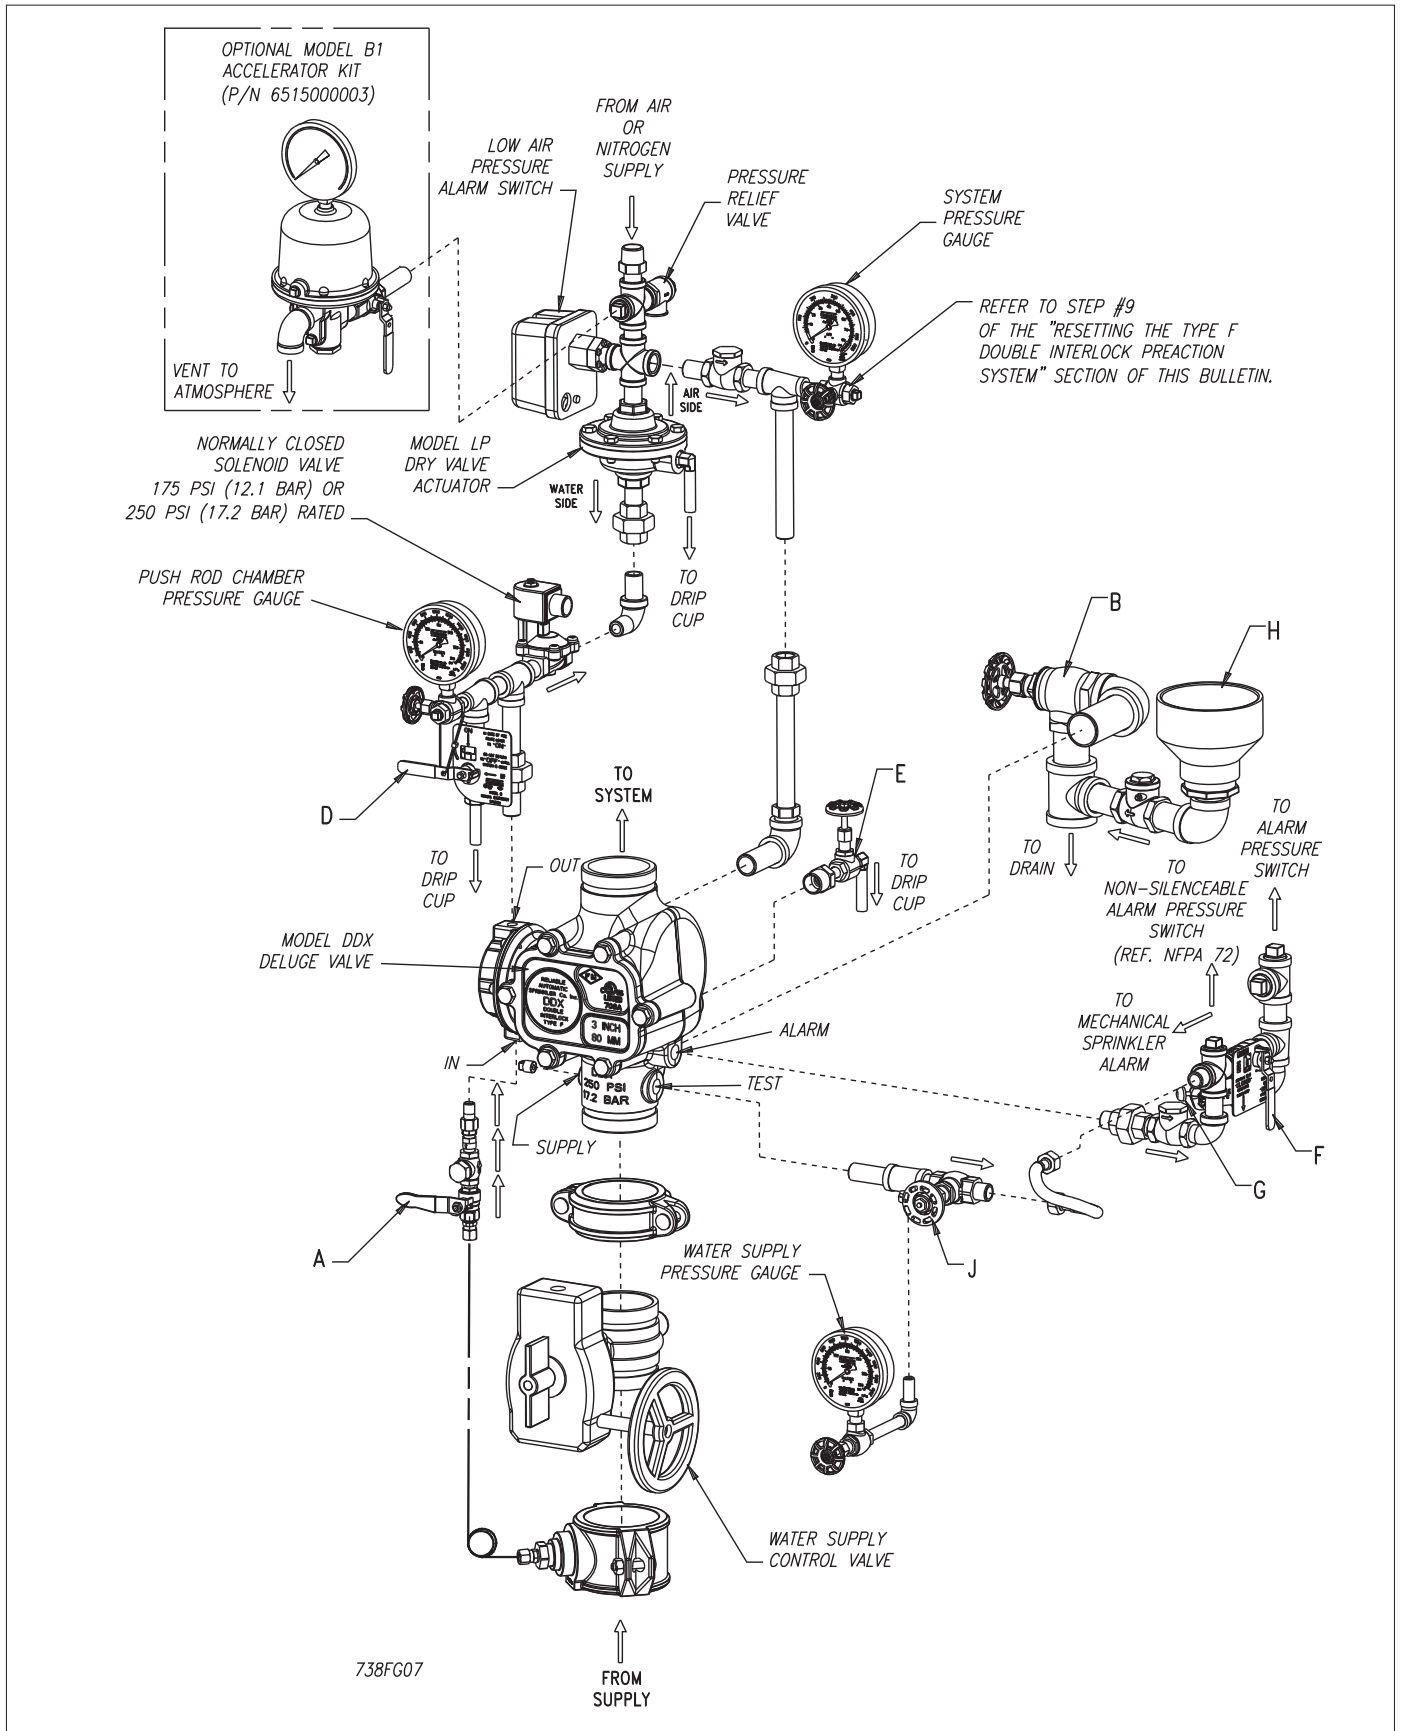

Fig. 7
1. Close the main valve controlling water supply (Fig. 7) to the Deluge Valve and close off the air/nitrogen supply to the sprinkler system.
2. Close the pushrod chamber supply valve, valve A (Fig. 7).
3. Open the main drain valve, valve B (Fig. 7), and drain system.
4. Open all drain valves and vents at low points throughout the system, closing them when flow of water has stopped. Open valve D (Fig. 7). **Note:** The above steps accomplish the relieving of pressure in the pushrod chamber of the Deluge Valve.
5. With Valve F (Fig. 7) open, push in the plunger of ball drip valve, valve G (Fig. 7), to force the ball from its seat, and drain any water in the alarm line.
6. With the Model B Manual Emergency Station, valve D (Fig.7), open, push in and rotate the Deluge Valve's external reset knob (#14, Fig. 6) clockwise until you hear a distinct clicking noise, indicating that the clapper has closed. **Note:** The reset knob can be rotated only after pressure in the pushrod chamber is reduced to atmospheric conditions (0 psig).
8. Close valve F (Fig. 7). Activate a solenoid-release pull station (Or other means of electric detection. Refer to Bulletin 700, "Special Hazards & Special Systems") to energize the solenoid valve. Silence any alarms or audible tones by pressing the "Remote Silence" and/or "Local Silence" buttons on the releasing/control panel. Open valve A (Fig.7) to begin pressurizing the push-rod chamber and its associated piping, while simultaneously venting any entrapped air. **Note:** This venting of the air from the actuation piping is very important to ensure proper system operation and avoidance of falsely tripping the Deluge Valve.
9. Upon seeing a solid flow of water from the drain tubing, and the cessation of the "gurgling" sound at the drip cup, H (Fig. 7), close valve D (Fig. 7) then rapidly apply compressed air or nitrogen into the Model LP Dry Valve Actuator (and the sprinkler system) until the pressure conforms to Table A levels as indicated on the air pressure gauge (Fig. 7). The Model LP Dry Valve Actuator will close during this pressurizing process and the water will stop flowing into the drip cup. **Note:** It may be necessary to temporarily close the main drain valve B (Fig. 7) in order to build sufficient air pressure to "set up" the Model LP Actuator. Once the Model LP Actuator is "set up", the main drain valve B (Fig. 7) should be reopened and the remaining procedure followed. At this point, the pressure gauge which indicates push-rod chamber pressure (Fig. 7) will equalize to the available water supply pressure. **Note:** It may be necessary to isolate the system pressure
12. Open valve F (Fig. 7). Open slightly the main valve controlling water supply (Fig. 7) to the Model DDX Deluge Valve, closing drain valve B (Fig. 7) when water flows. Observe if water leaks through the ball drip valve, valve G (Fig. 7), into the drip cup, H (Fig. 7). If no leak occurs, the Deluge Valve's clapper is sealed. Open slowly, and verify that the main valve controlling water supply is fully opened and properly monitored.
13. Verify that valve A (Fig. 7) and valve F (Fig. 7) are open.
14. Secure the handle of the Model B Manual Emergency Station, valve D (Fig. 7), in the OFF position with a nylon tie (#56, Fig. 2).
2. **Alarm line** — be sure that valve F (Fig. 7) is opened and remains in this position.
3. **Other trimming valves** — check that valve A (Fig. 7) is open as well as all of the pressure gauge's 1/4" 3-way valves. Valves D, E, and F (Fig. 7) should be closed.
4. **Ball drip valve G (Fig. 7)** — make sure that valve F (Fig. 7) is open. Push in on the plunger to be sure the ball check is off its seat. If no water appears, the Deluge Valve's water seat is tight. Inspect the bleed hole (see Fig. 6) on the underside of the push rod chamber for leakage.
5. **System pneumatic pressure** — check air pressure gauge (Fig. 7) and water supply pressure gauge (Fig. 7) for conformance to Table A.
6. **Releasing device** - Model LP Dry Valve Actuator (Fig. 7) — Verify that the outlet is not leaking water. Check the air pressure gauge (Fig. 7) for proper pressure setting. Verify that the tubing line from the Actuator is not pinched or crushed, which could prevent proper operation of the Deluge Valve.
7. **Testing alarms** — make sure that valve F (Fig. 7) is open. Open valve J (Fig. 7) permitting water from the supply to flow to the electric sprinkler alarm switch and to the mechanical sprinkler alarm (water motor). After testing, close this valve securely. Push in on the plunger of ball drip valve G (Fig. 7) until all of the water has drained from the alarm line.
8. **Operational test** — Open the Model B Manual Emergency Station, valve D (Fig. 7). **Note:** An operational test will cause the Deluge Valve to open and flow water into the sprinkler system.
9. Secure Model B Manual Emergency Station, valve D (Fig. 7), in the OFF position with a nylon tie (#56, Fig. 2) after the Deluge Valve is reset.
Refer to Fig. 7
2. Leakage out of the ball drip valve G (Fig. 7).
b. Leakage, air or water from the ball drip valve, G (Fig. 7):
- A) Shut down the valve controlling the water supply to the Deluge Valve and open the 1 1/4" main drain valve B (Fig. 7). Open the water column drain valve H (Fig. 7). Close the push rod chamber supply valve A (Fig. 7) and open the Model B Manual Emergency Station D (Fig. 7).
- a) Shut down the valve controlling water supply to the Deluge Valve. Relieve the inlet pressure by opening the 1¼" drain valve B (Fig. 7). Close the valve A (Fig. 7) that supplies water to the push rod chamber, and open the Model B Manual Emergency Station, valve D (Fig. 7).
Refer to Figs. 7 and 8
1. Close the main valve controlling water supply (Fig. 7) to the Deluge Valve and close off the air/nitrogen supply to the sprinkler system. Close valve A (Fig. 7).
2. Drop pressure in the system by opening the ¼" angle valve, valve E (Fig. 7), and remove the Actuator from the system.